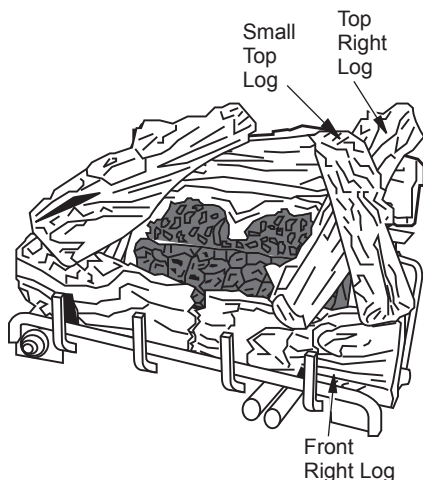

Figure 27 - Installing Log
- Place the small top right log as shown in Figure 27. The bottom of the log is shaped to fit onto the recessed areas of the top right log and the front right log. The recessed areas are painted yellow.
⚠ WARNING: Do not operate unit without ember material correctly in place as shown in Figures 27 & 28. Do NOT place ember material anywhere else on the unit. Use only ember material supplied with unit. Excessive or incorrectly placed ember material may produce carbon monoxide or soot.